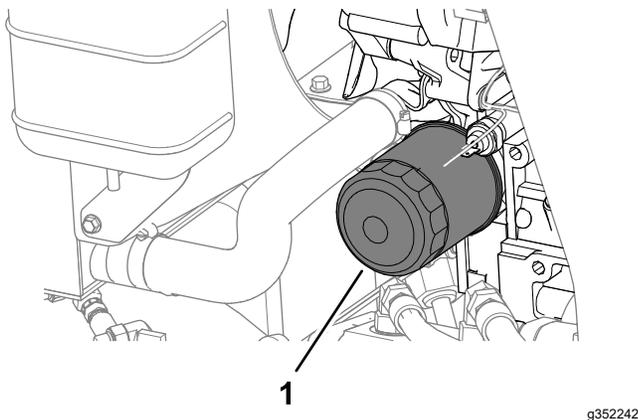

Figure 66
4. Remove the oil filter (Figure 66).